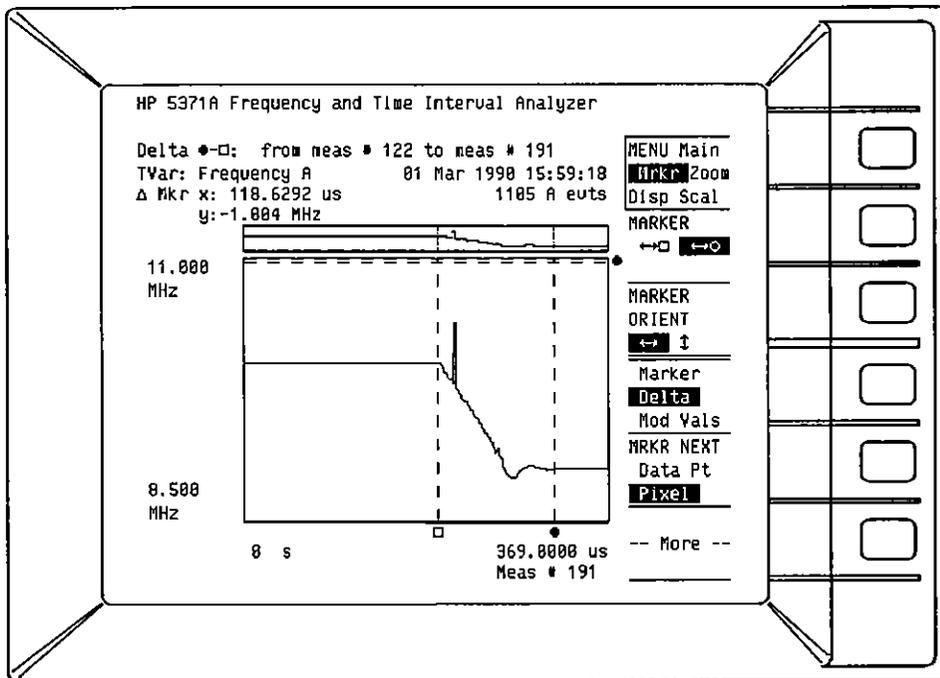

Figure 16-16. Time Variation X-axis Delta
- Delta on the $\leftrightarrow \square \leftrightarrow \bullet$ markers also provides a count of the input events between markers. This is only for the measurement configurations that provide this data to the graph (see *Figure 16-16*).